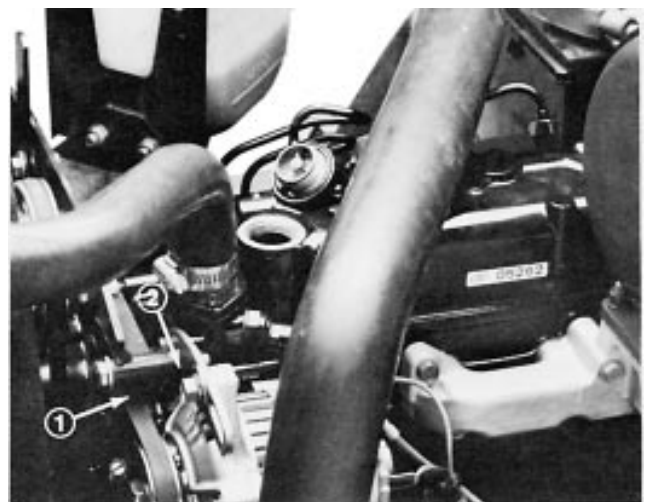

Figure 36
3. Loosen bolt securing brace to engine and bolt securing alternator to brace (Fig. 36).
2. Loosen bolts securing brace to engine and alternator to brace (Fig. 36).